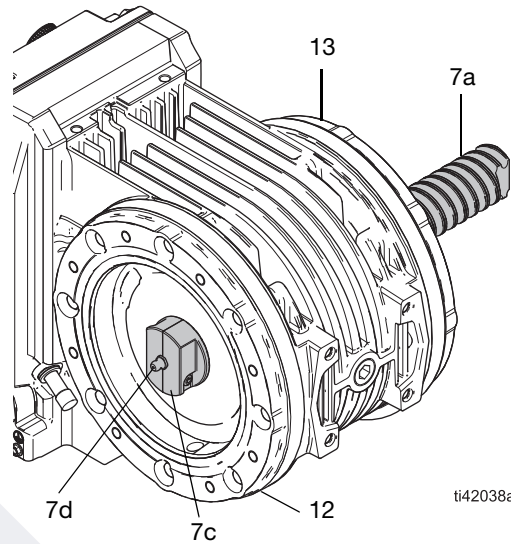

FIG. 18: Rotor Greasing Tool
4. Turn the rotor greasing tool into the center of the rotor (7) until the shaft (7a) fully protrudes from the load-side stator cap (13). See FIG. 18.